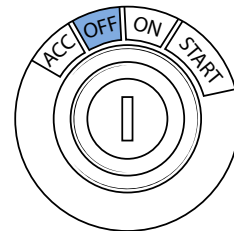

Figure 6 - Start switch
4. Turn the start switch to the "OFF" position **(Figure 6)**.